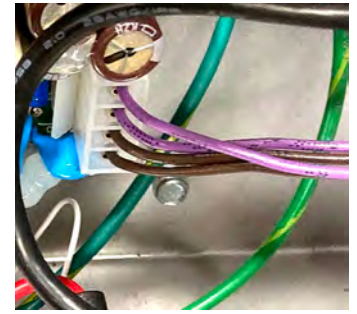

Figure 11
12. Reconnect the power harness disconnected from the power supply in step 8 (see Figure 11) and skip to step 14.